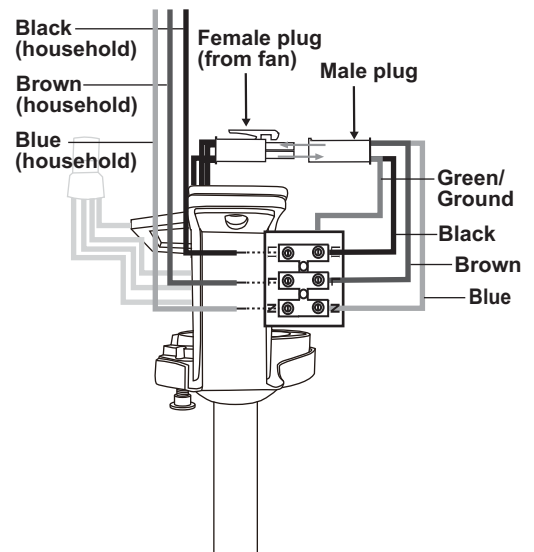

Figure 16
4. Connect the blue, household neutral wire to the terminal block "N" hole. Connect the brown, household Live wire to the terminal block "L" hole. Connect the black, household Live wire to the terminal block "LI" hole. (Fig. 16 & 17)